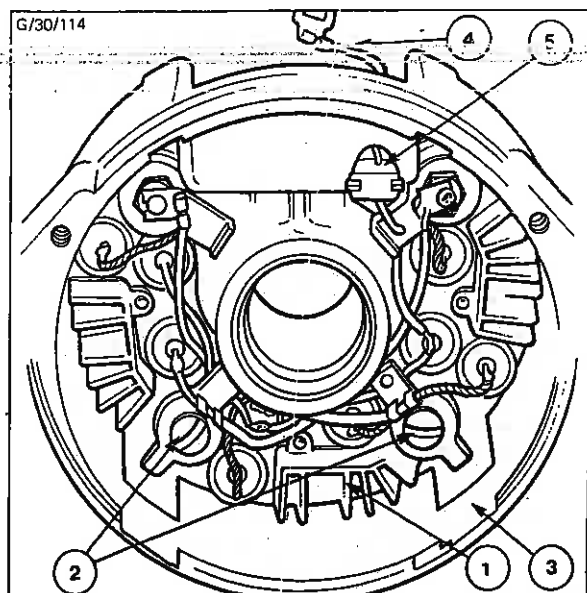

Fig. 75 - Replacing Heat Sink Assembly
9. Replace the complete heat sink assembly (1) in the end shield and secure with the two screws (2) and spring and plain washers - see Fig. 75.